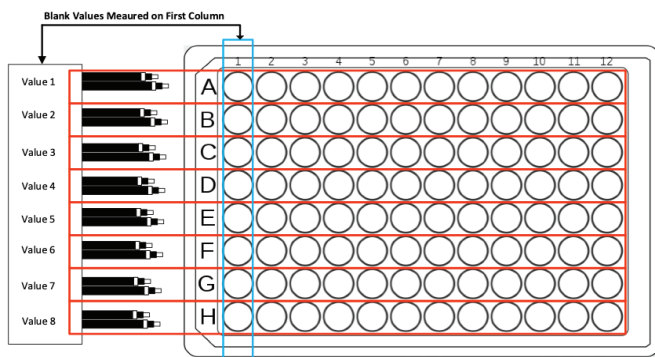

Fig. 31—The values of the blanks are measured to determine the baseline resistance without any cells. This figure shows an array of 96 wells.
- Select your blank option. This option measures the resistance of the first column (Wells A1, B1, C1... H1), and this value is used as a baseline for each row. Each value on the *Blank Value* table measures the resistance of the specific electrode pair used to measure each column on a well containing only buffer or media. (See the column highlighted in blue in Fig. 31.) These values (Value 1 ... Value 8) are subtracted from the measurements on the corresponding row (Red Rectangles) to obtain the change from the baseline well (the well with no cell growth) to omit any offset or background values.